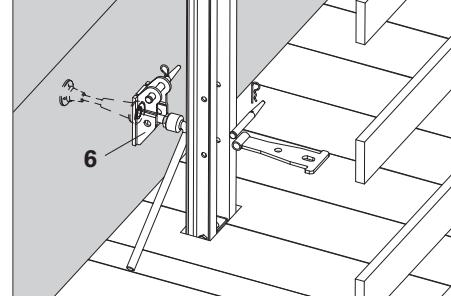

Fig. B4.01a
4. Remove wind bracing (7) on the wall and place in secure position.
5. Disassemble Bracing Shoe CB (6) for the wind bracing, SW 36, and fix to the wind bracing or remove. (Fig. B4.01a)